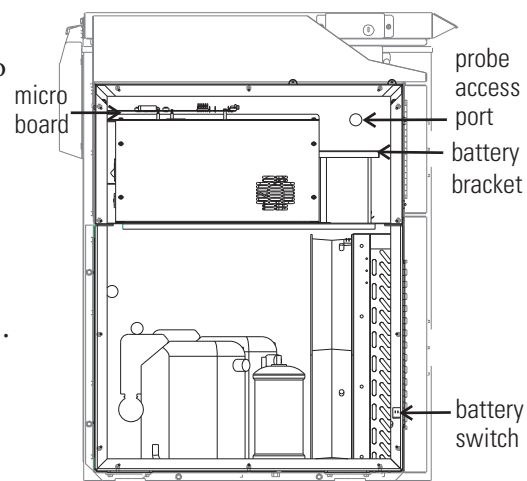

Figure 5-1. Battery and Switch location
3. Turn off the battery switch (O). See Figures 5-1 and 5-2.
2. Locate the battery power switch (Figure 5-1). Turn the battery power switch to the Off position (O).
4. Remove the three nuts securing the battery bracket. See Figure 5-1.
- Check Battery(s)** All Models except 3 cu ft (Figure 5-1):
1. Locate the power switch on the back of the unit. Turn the switch off. (O).
2. Open the lower door on the front left corner of the sidecar. Turn off the battery switch (O).